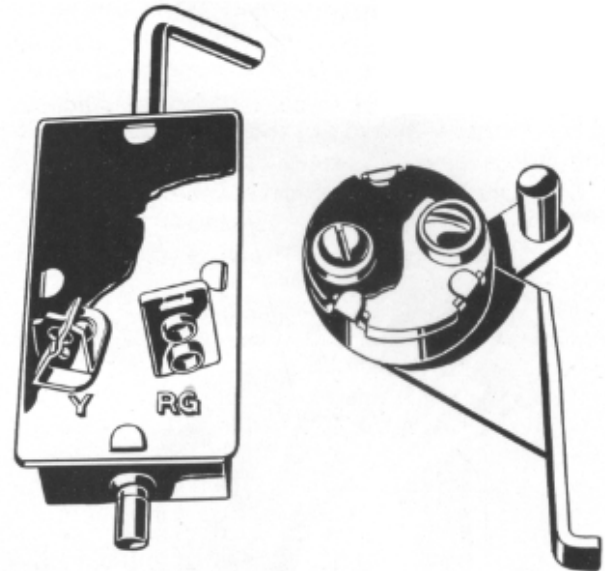

Figure 27
84. Reinstall circuit breaker by reversing operations 81 through 83. Be sure to install wires in proper terminals as indicated by wire color code letter adjacent to terminals, Figure 27. Adjust circuit breaker (see pages 6 and 8).